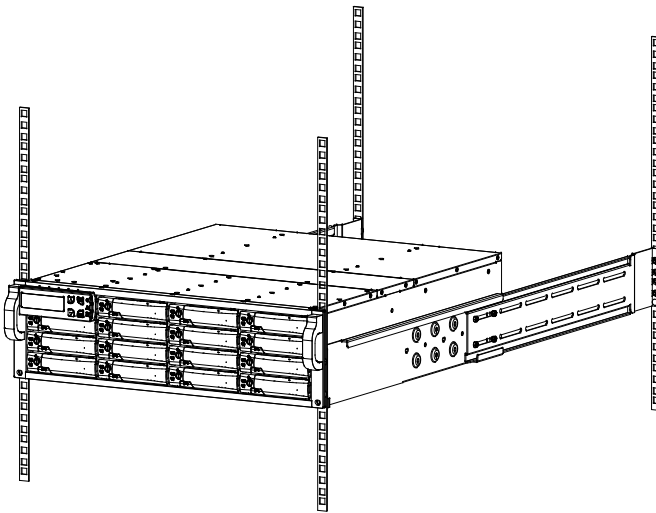

Figure 3.
2. Fasten two M5 screws through the chassis ears in the front side of the chassis to secure the CineRAID subsystem in the rack as Figure 3.